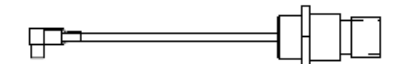

Figure 5: User-Supplied MCX to TNC Cable Example
- An antenna cable with a male MCX connector at the receiver end (see *Figure 5*)